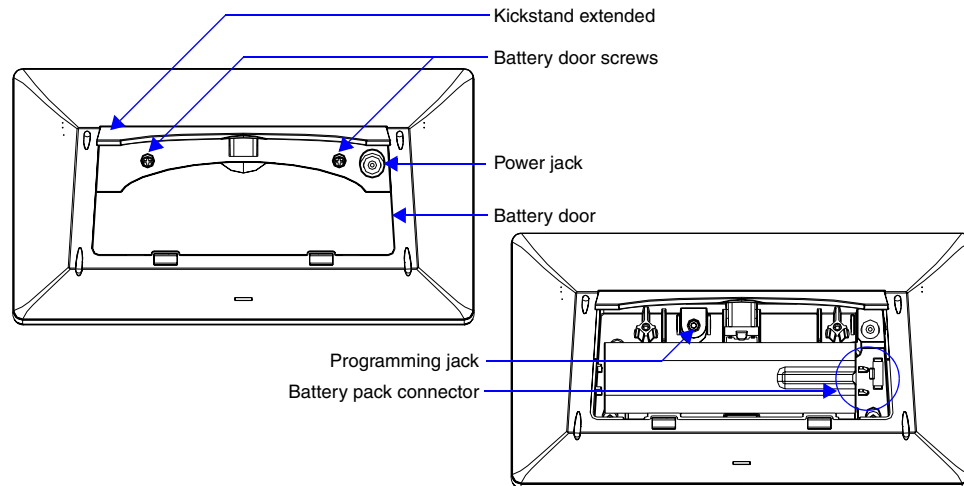

FIG. 2 Mio Attaché Bottom Components
1. Extend the kickstand on the Mio Attaché to the upright position, exposing two screws on the battery door. Shown in FIG. 2.
1. Extend the kickstand on the Mio Attaché to the upright position, exposing an external power port, 2.1 mm barrel-style power jack. Shown in FIG. 2.